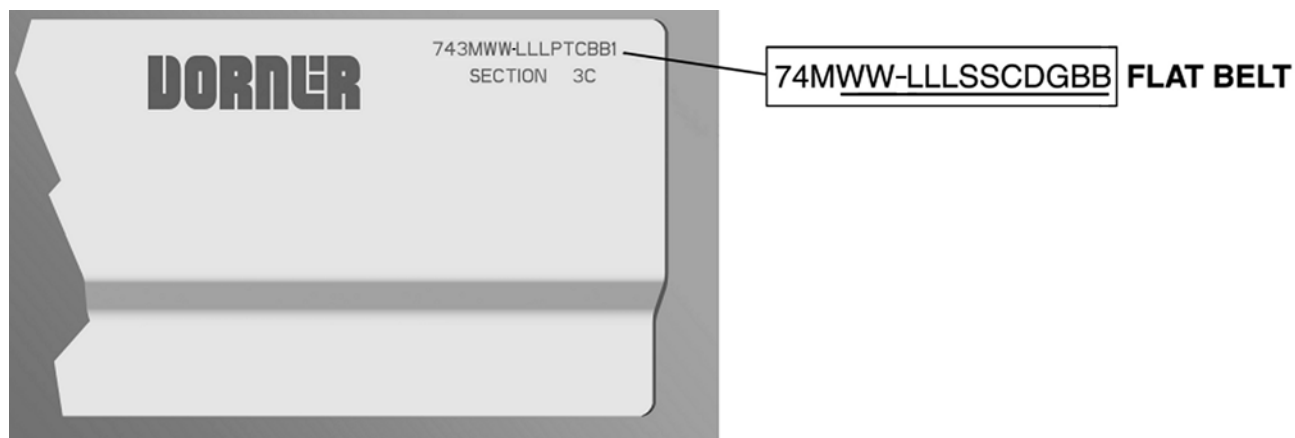

Figure 74
Refer to the model number on the conveyor frame (**Figure 74**). From the model number, determine conveyor width (WW), length (LLL), drive stand location (S), idler stand location (S), cleaning options (C), drive/pulley type (D), profile (G) and belt material (BB).